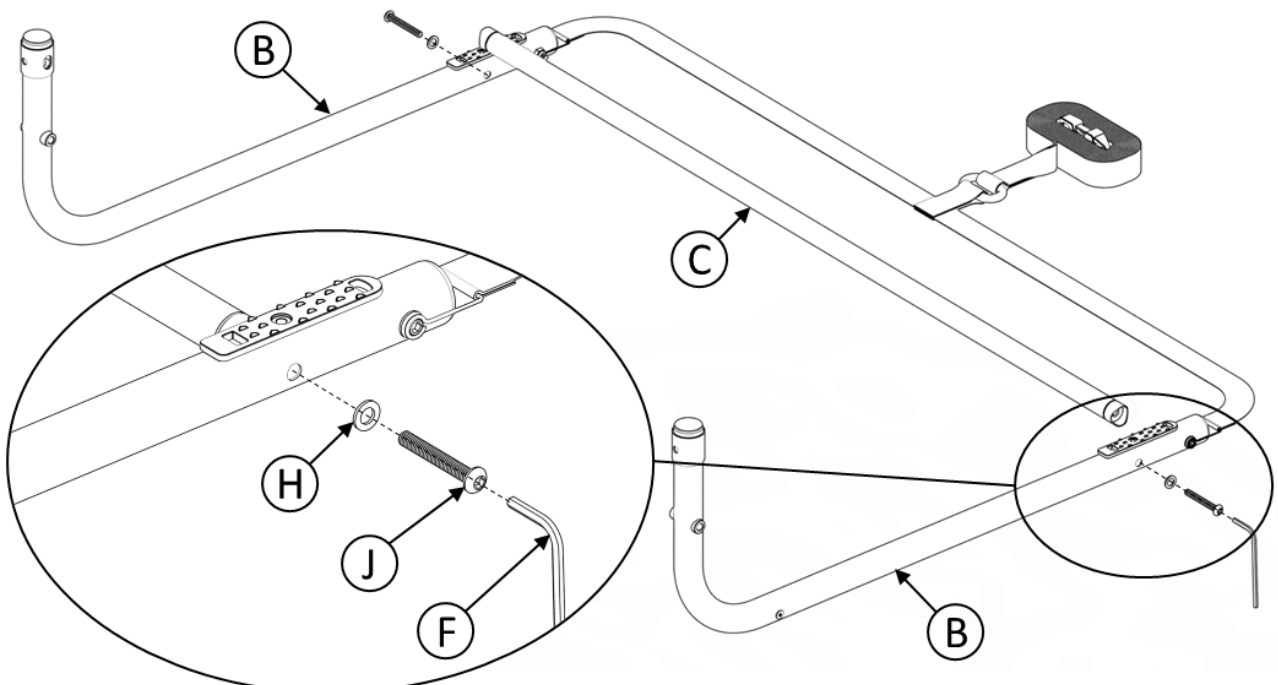

FIGURE 2
2. Place **C** between **B** and align holes as shown in *FIGURE 2*. Secure both ends with **H** and **J** using the tool provided (**F**).